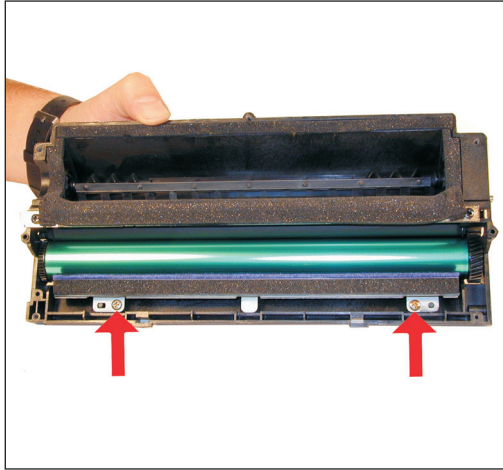

Figure 14
8) There are 2 Gold Colored screws on the PCR cleaner Assy. Remove them and gently pry the blade up. Be very careful not to break off the alignment tabs. We have found it best to lift up from both sides when removing this blade. Note that these screws have a different length than the black screws. See Figures 14 & 15